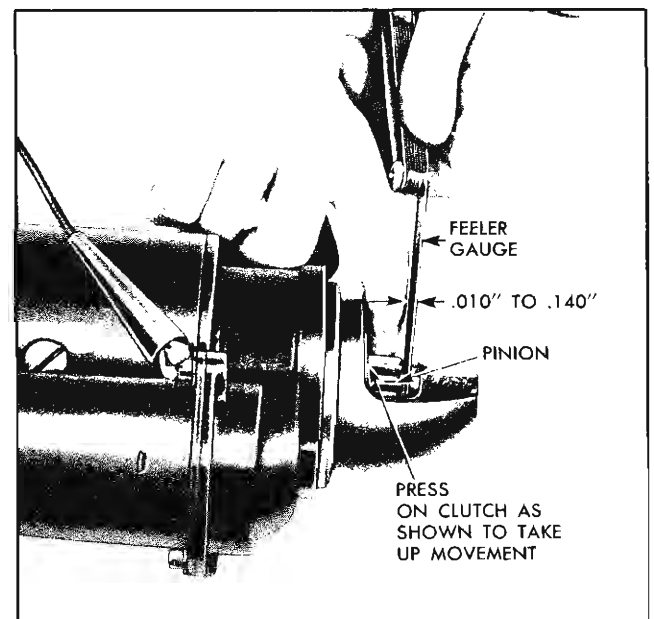

Fig. 11-12 Measuring Pinion Clearance
**NOTE:** Do not connect the voltage source to the ignition coil terminal "R" of the solenoid. Do not use a 12-volt battery instead of the 6 volts specified as this will cause the motor to operate. As a further precaution to prevent motoring, connect a heavy jumper lead from the solenoid motor terminal to ground. After energizing the solenoid with the clutch shifted towards the pinion stop retainer, push the pinion back toward the commutator end as far as possible to take up any slack movement, then check the clearance with a feeler gauge (Fig. 11-12).